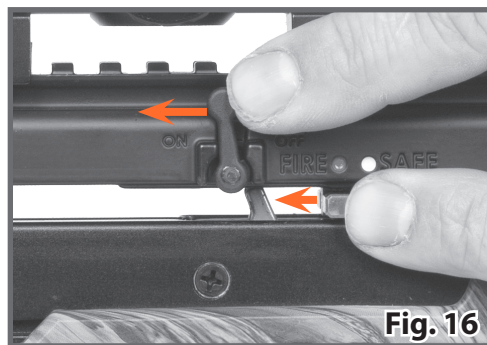

Fig. 16
1. Push and Hold the Cocking Preparation Switch forward. (Fig. 16)
2. While holding the Cocking Preparation Switch forward, slide the safety switch from the ON SAFE position to the FIRE position. (Fig. 16)
3. Release the Cocking Preparation Switch once the safety switch is in the FIRE position. (Fig. 16)